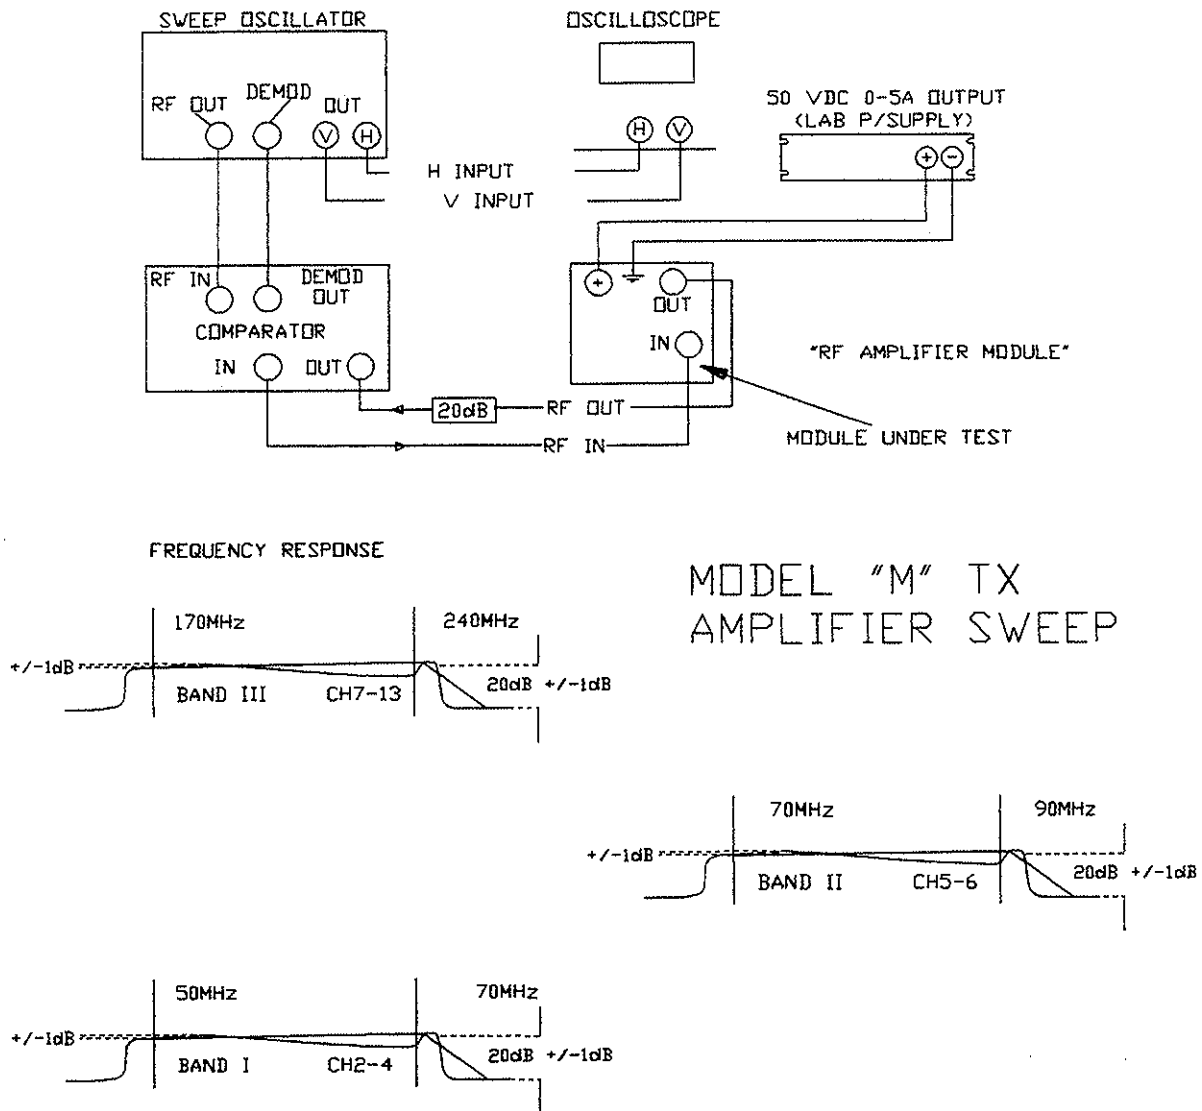

Figure 1: Module Sweep Set-up.
3. Connect the module to a sweep system, typically as shown in Figure 1. The sweep generator should be adjusted to give a linear sweep from about 45 to 75 MHz, or from 65 to 95 MHz, to sweep the part of Low Band that the module is intended for, with a small amount of out-of-band signal on both ends. Ensure that a coaxial 20 dB attenuator pad is connected to the RF output of the amplifier, in order to prevent possible damage to the sweep comparator.
The swept in-band frequency response, for Low Band modules, should be essentially flat within ± 1 dB as shown in Figure 1, with gain approximately 21 ± 2 dB. (High Band modules have lower gain due to the RF device characteristics. Low Band sweep curves are usually > 20 dB gain.)